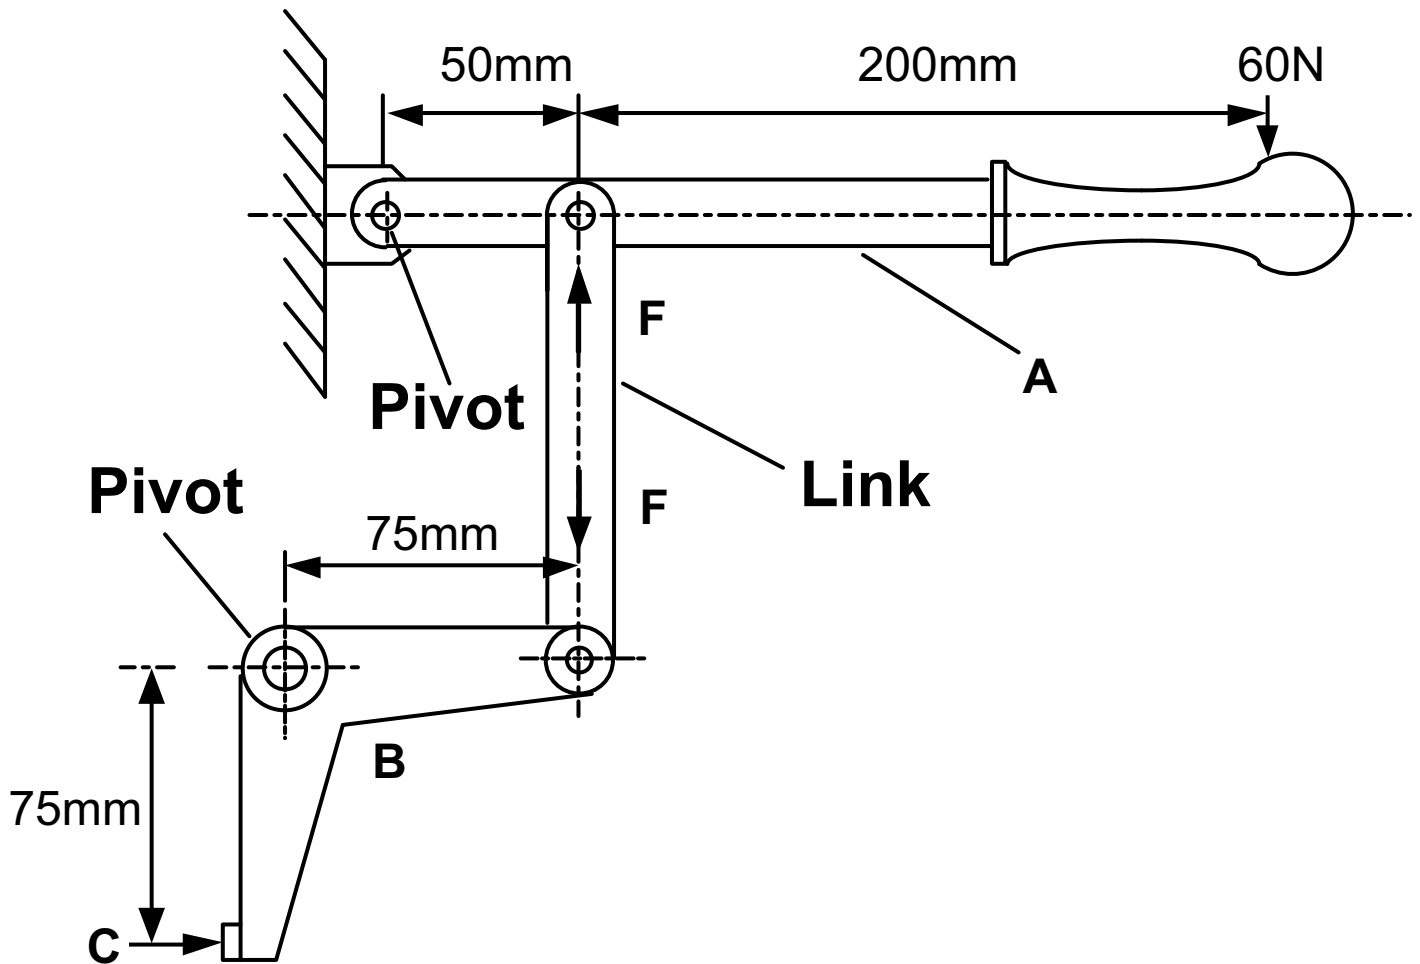

Fig. 8
- (i) State the class of lever shown at **A** in **Fig. 8**.
(iii) State the type of lever shown at **B** in **Fig. 8**. [1 mark]